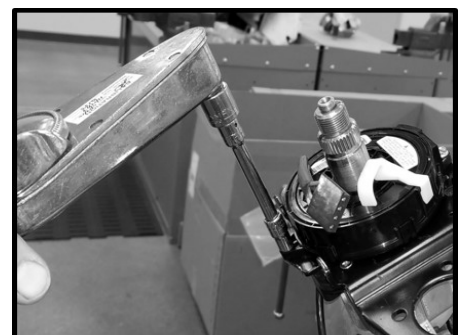

Figure 3
5. Using a 1/4" socket and torque wrench, torque screws to 15-20 in-lbs. **Figure 3**